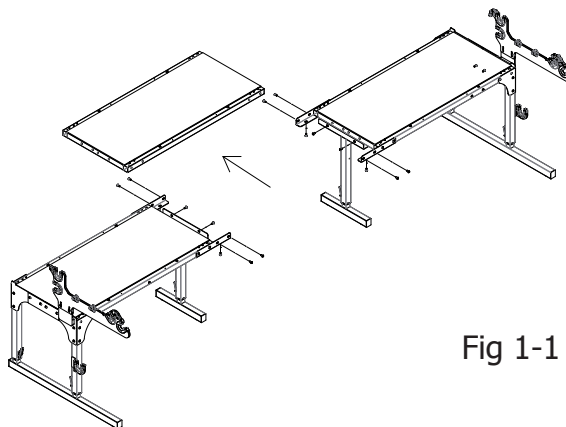
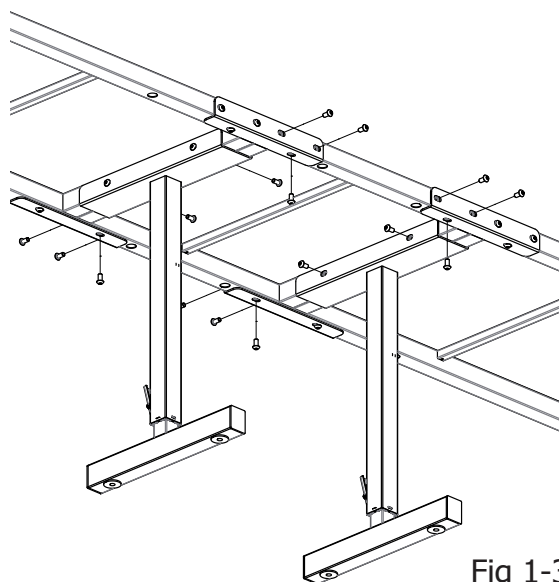

Fig 1-1
Fig 1-3
(12), six (6) per track, mounting screws from the underside of the table sections with the 4mm Allen wrench. Place the track support assemblies aside in a safe place.
1-4: Remove the two (2) inside top middle leg screws from the center table section at each end with the 5mm Allen wrench (Fig. 1-1 & Fig. 1-3). Leave the two (2) outside top middle leg screws attached to support the outside table section ends.
1-5: Remove the three (3) screws from each of the four table splice braces at each corner of the center table section with the 5mm Allen wrench. Leave the table splice braces connected to the left and right table end sections (Fig. 1-1 & Fig. 1-3).
1-6: Carefully remove the center table section by lifting it up and out of the middle legs. The middle legs should now be supporting each frame end and there will be a four foot gap at the center (Fig. 1-1). You may need a second person for this step.
1-8: Re-install the three (3) screws into each of the four (4) table splice braces at each corner of the two foot table section with the 5mm Allen wrench (Fig. 1-3)
1-9: Re-install the two (2) inside top middle leg screws into each middle leg at both ends of the center two-foot table section with the 5mm Allen wrench (Fig. 1-3).